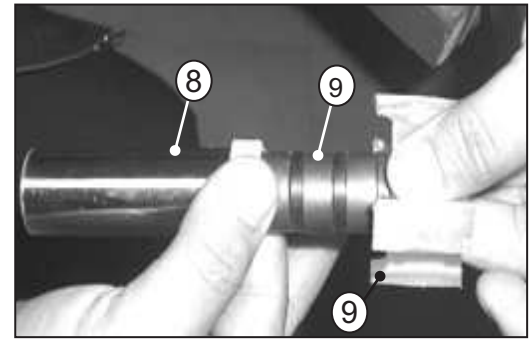

Fig. 5.17d
IMPORTANT: Do not dismantle the magnets (9) as these are assembled in polarity sequence and it should not be disturbed (fig. 5.17d).